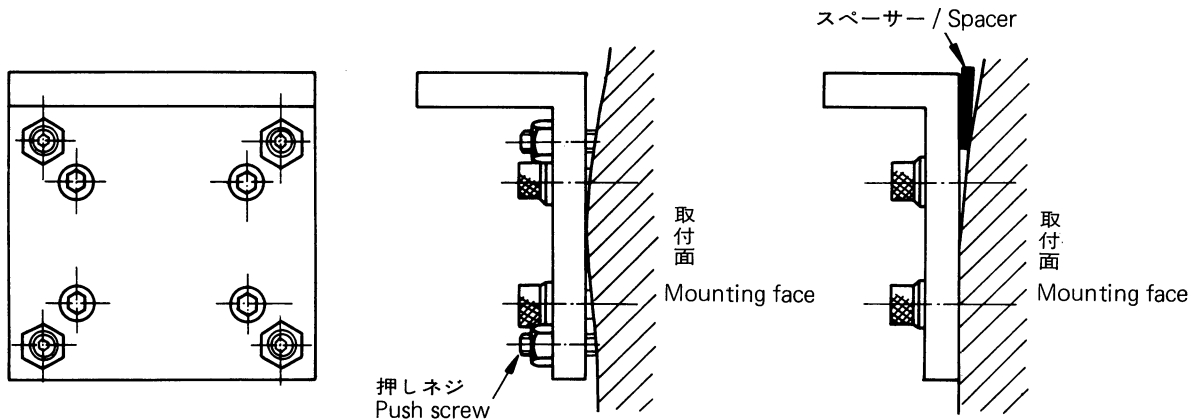

Fig. 5
- Spacers and adjusting screws may have to be used to mount the scale and head if the mounting surfaces are irregular or otherwise rough. The spacers are to provide smooth seating faces that can be adjusted. An arrangement like the one shown in Fig. 5 is recommended.